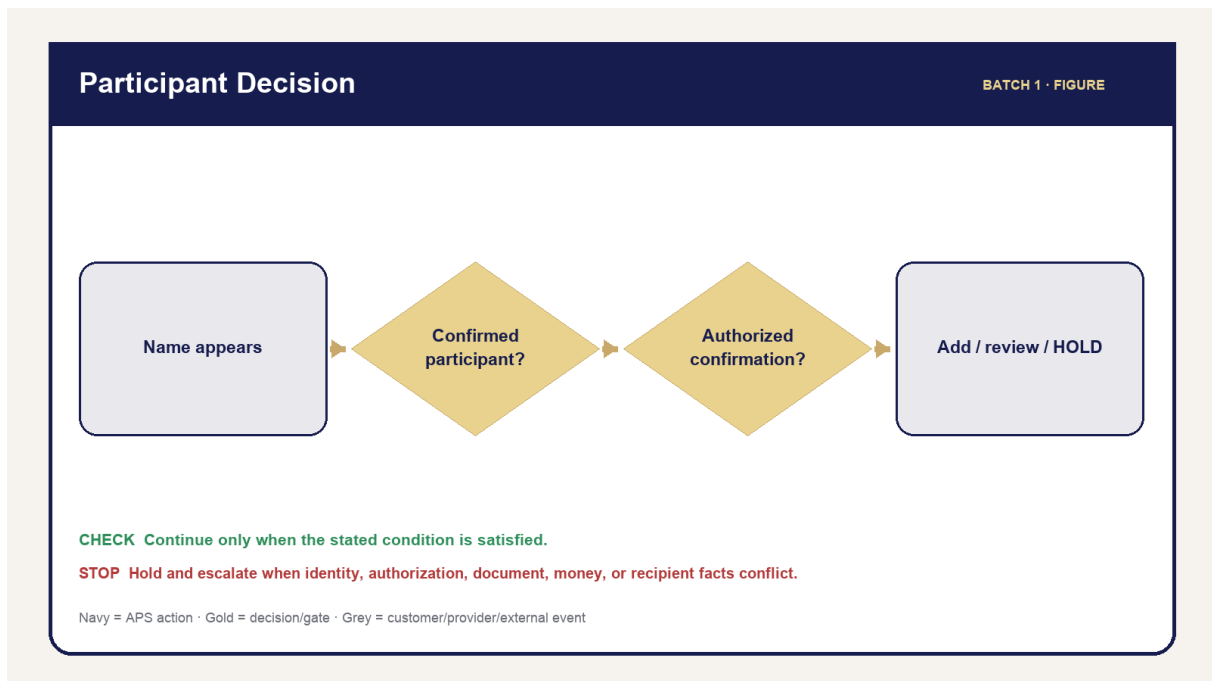

Figure 06 — Participant Role Relationship
- Figure 06 — Participant Decision